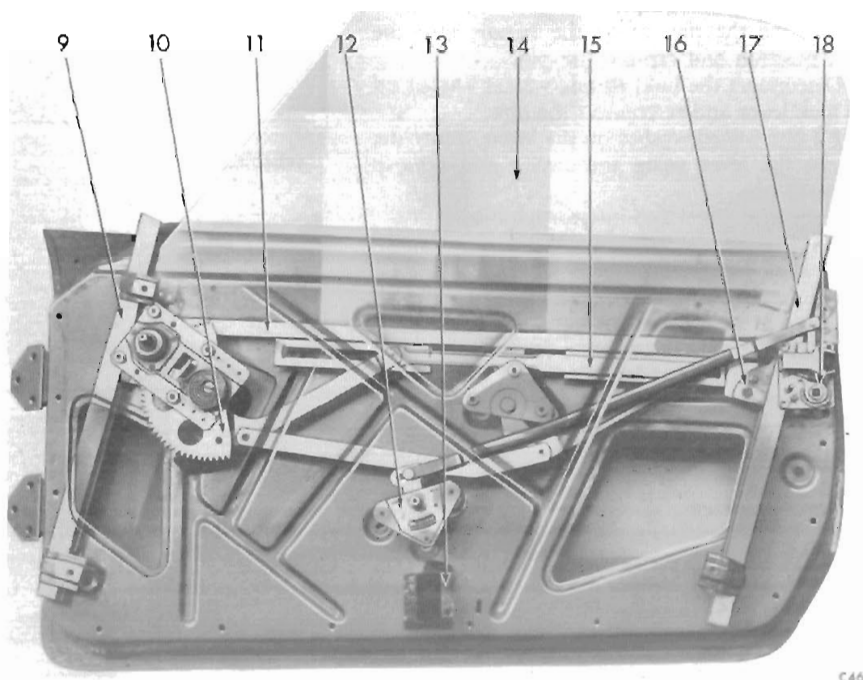

Fig. 59. Location of door components (Spitfire)
**Door Glass****To Remove** (Figs. 59 and 60)